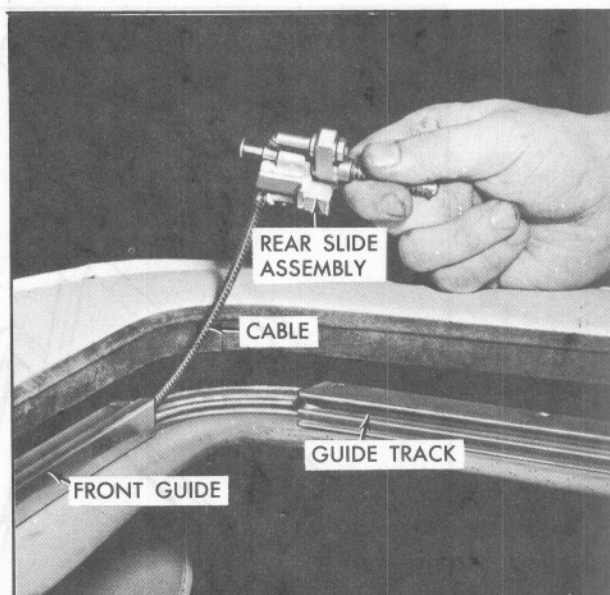

Fig. 15-29 Removing Rear Slide And Cable
5. Remove slide from guide track and pull cable out of front guide, Fig. 15-29.